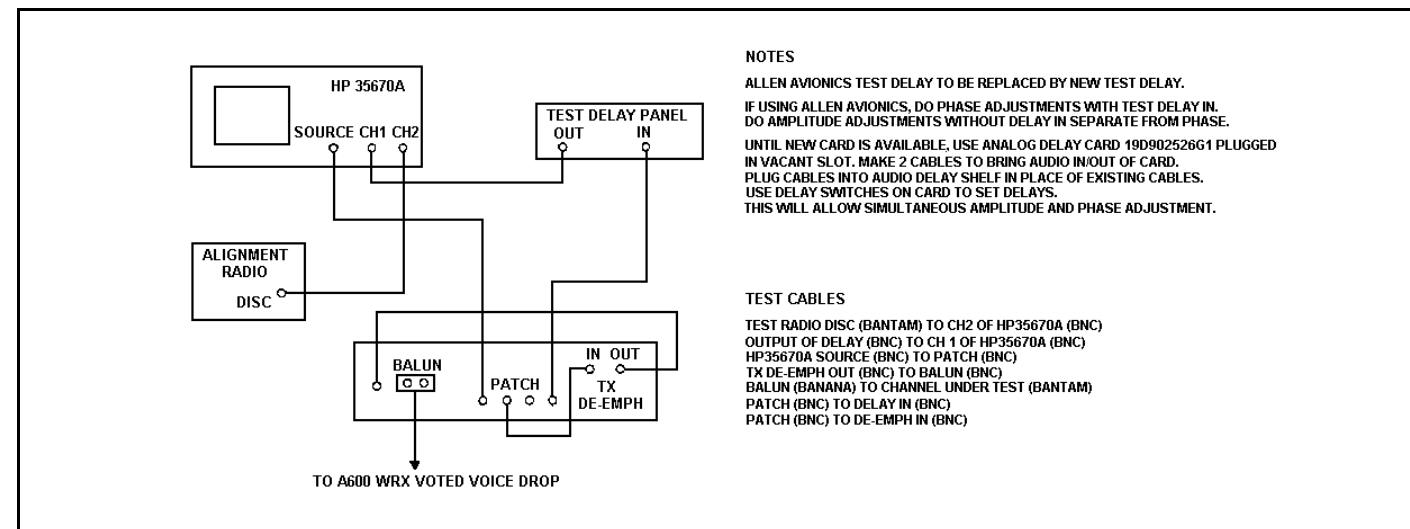

Figure 10 - Simulcast Alignment Test Setup Using HP 35670A Sweep Analyzer
3. Set up cabling between HP 35670A, Delay Panel, Test Radio, and Balun Panel as shown in Figure 10. This allows *simultaneous* measurement/adjustment of the amplitude and phase response.